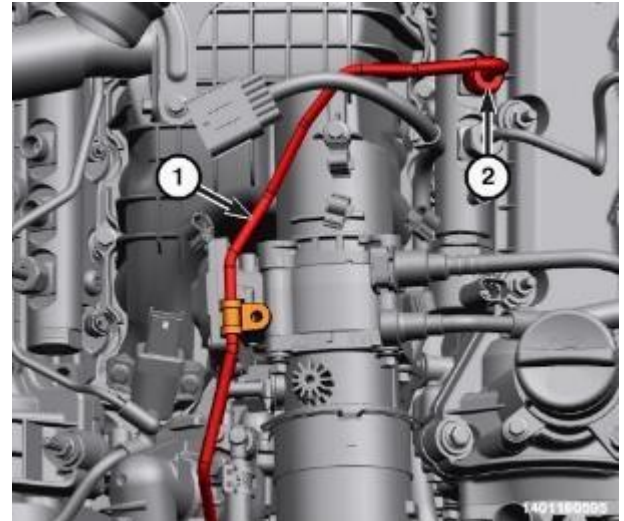

Figure 66 – Fuel Tube
116. Install the **NEW** left high pressure fuel tube (1) and tighten the rail union nut (2) finger tight (Figure 66).